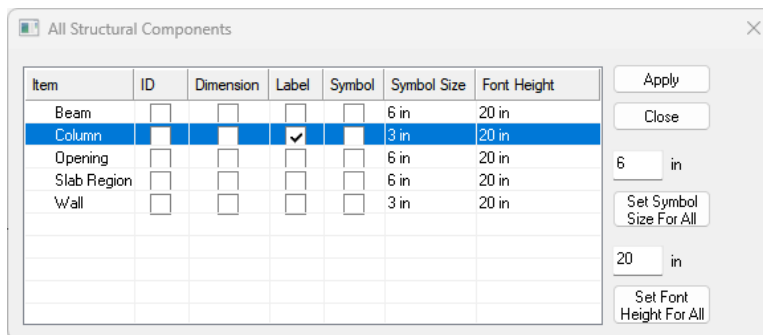

FIGURE 15-5
- In the *All Structural Components* window that opens, check the box in the *Column* row under the **Label** column, as shown in **FIGURE 15-5**.